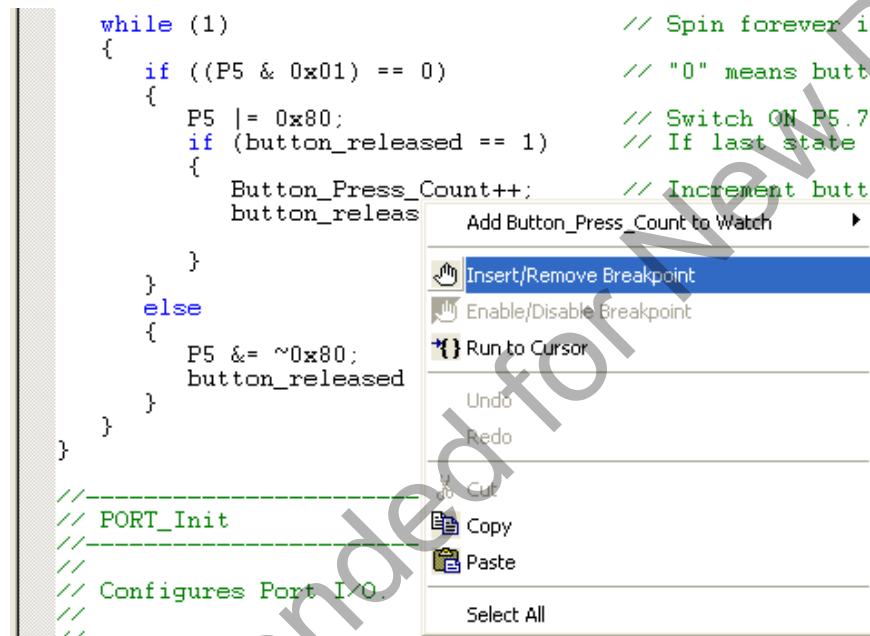
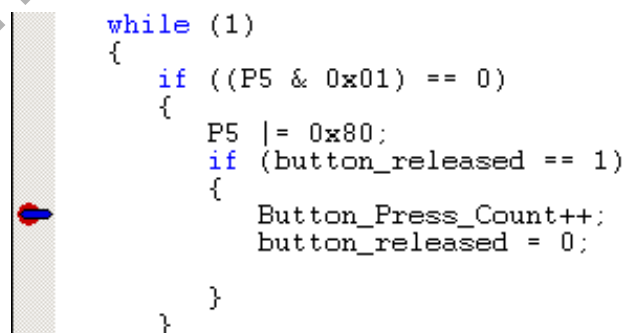

Figure 14. Inserting Breakpoint
Figure 15. Execution Stopped at Breakpoint
2. Scroll to the `main` function (line 69) and right-click on the `Button_Press_Count` variable. In the context menu shown in Figure 14, select **Insert/Remove Breakpoint**. On the left side of the line in the editor window shown in Figure 15, a red circle is added to indicate that a breakpoint has been placed on the source line.